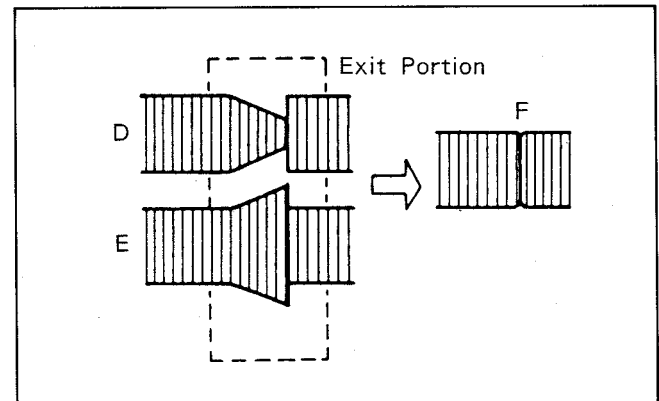

Fig. M9
5. If the RF envelope appears like example "D" or "E" in Fig.M9, then adjustment of the tape guide post (P3:Exit) is necessary.
6. Adjust the tape guide post (P3) in the same manner as the P2 post so that the exit portion becomes flat as shown in Fig.M9-"F".